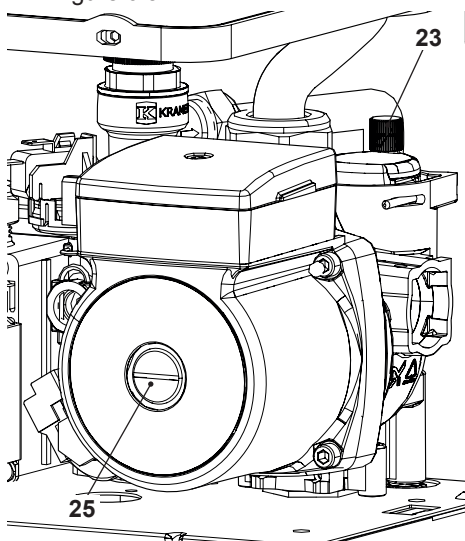

Figure 6.3
- Loosen the automatic bleed valve cap 23 in Figure 6.3.
- Remove the cap 25 in Figure 6.3 and release the pump by turning the impeller using a screwdriver.